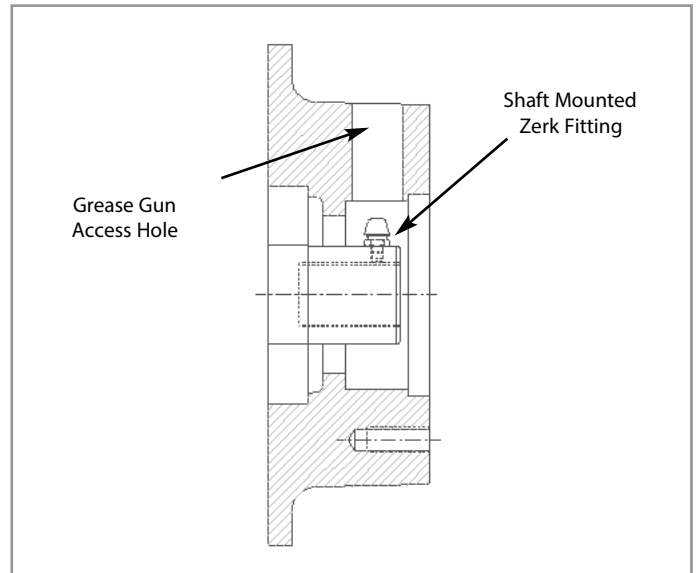

Figure 3. Drive end bearing bracket
2. Turn the rotor assembly so that the Zerk fitting is in line with the access hole in the top of the drive end bearing bracket as illustrated in Figure 3.